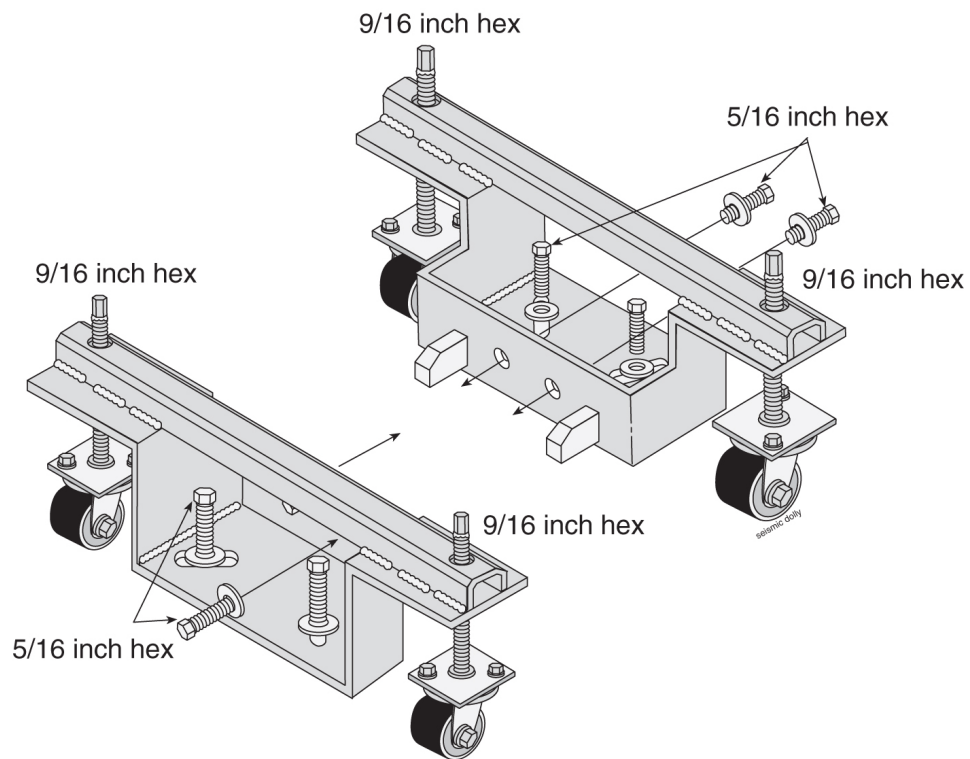

Figure 12: Heavy Duty Frame Dolly
10. At the correct site location, turn the threaded rods counter clockwise to lower the frame by raising the wheels of the dolly. Again two technicians must turn the threaded rods at the same time avoid tilting. Refer to Figure 12: Heavy Duty Frame Dolly for the location of the threaded rods attached to wheels.